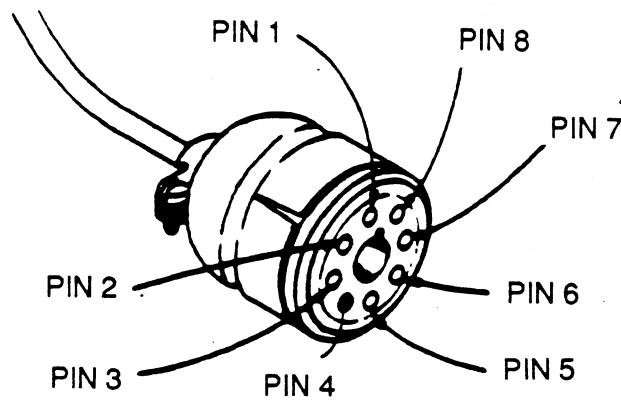

Figure 6-1. Ion Source Connector
- 3 Measure the following D-C voltages ( $\pm 20$  percent) at each pin to ground on the ion source connector as shown in Figure 6-1.
- 6 Check pins 2, 3, 6, and 7 in the ion source corresponding to the pins shown on the connector (Figure 6-1). Check that the pins are electrically isolated from ground as well as from each other.